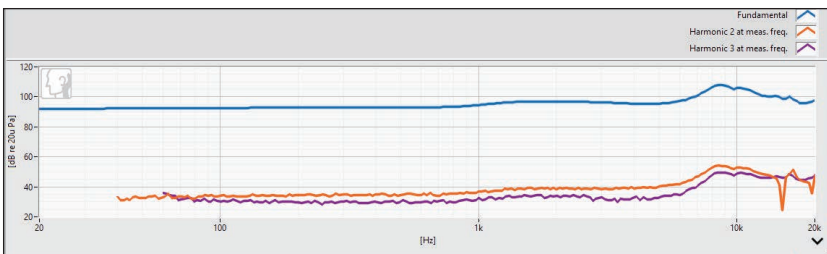

Figure 6: Second and third harmonics of a Piezo-MEMS microspeaker plotted at their measured frequencies.
**Figure 6** shows harmonics plotted at their measured frequency (not at their excitation frequency) along with the fundamental for the Montara Plus piezo-MEMS speaker. You can see that the fundamental bumps at the high frequencies are superimposed on the harmonics.